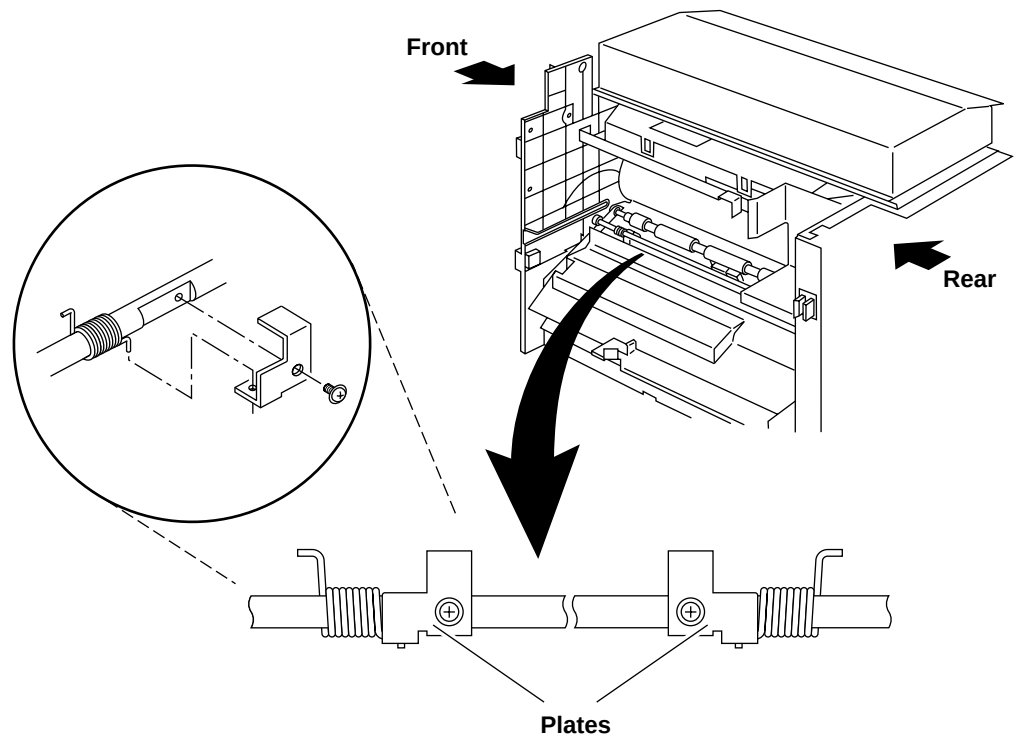

Figure 5-70 Developer Retaining Plates
- Step 4** Install the new front developer retaining plate. Make sure you engage the coil spring to the hole in the plate. See Figure 5-70.